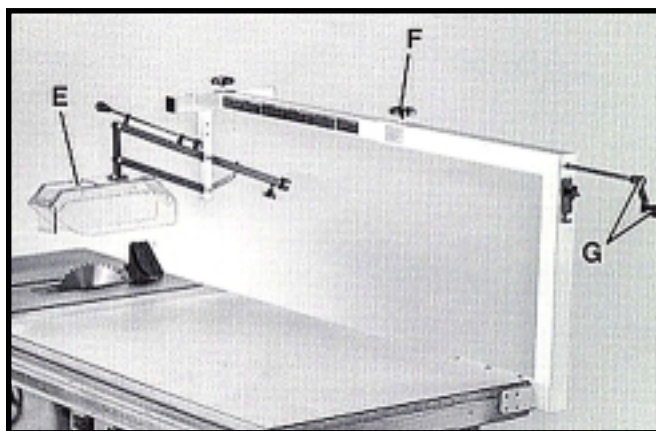
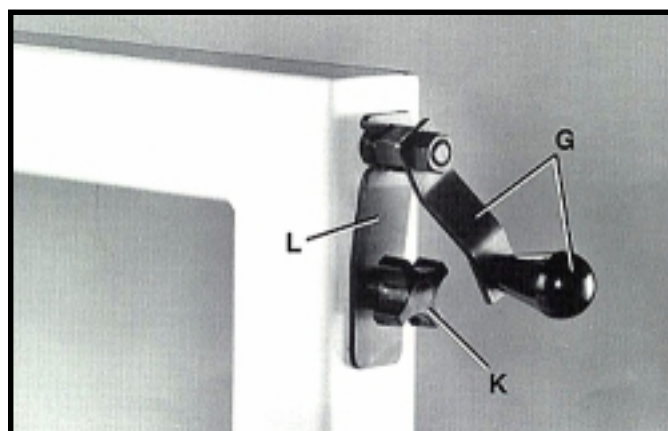

Fig. 27
Fig. 28
24. For rapid movement of the blade guard basket (E) Fig. 27, to the right, Raise basket assembly (E) as shown, and loosen locking knob (F) Fig. 27, and (K) Fig. 28. Then flip lock lever (L) Fig 28, to the rear and pull adjusting lever (G) Fig. 27, out from the overarm as shown. After replacing the blade guard basket (E) Fig. 27, over the saw blade, make sure lock lever (L) Fig. 28, is in the locked position as shown, and the two locking knobs (F) Fig 27 and (K) Fig. 28, are tightened.